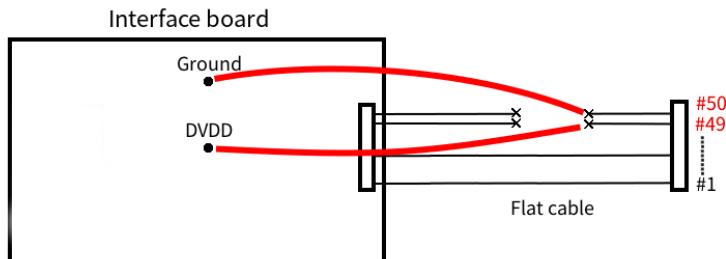

Figure 1.22: How to connect the #49 and #50 wires to the DVDD and Ground pins.
7. Pins 3,5,7,8 of the buffer chip represent the output of the buffer. Connect each pin to the wire number 13 of the flat cables coming off J2, J6, J8 and J10. The order is not relevant. Of course, in the case of the SideMRD, only one connection is needed (for example J2). Refer to Figure 1.22 for a visual explanation.